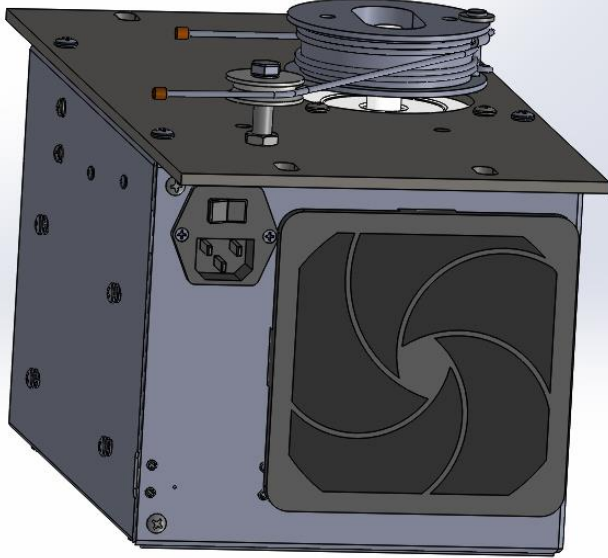

Fig. 2b – E-Lift Cable Routing (rear view)
Refer to Figures 2b & 2c for locations of plug receptacles.
1. Turn on the E-Lift using the power switch, located next to the power cord. Refer to Figure 2b for power switch location.